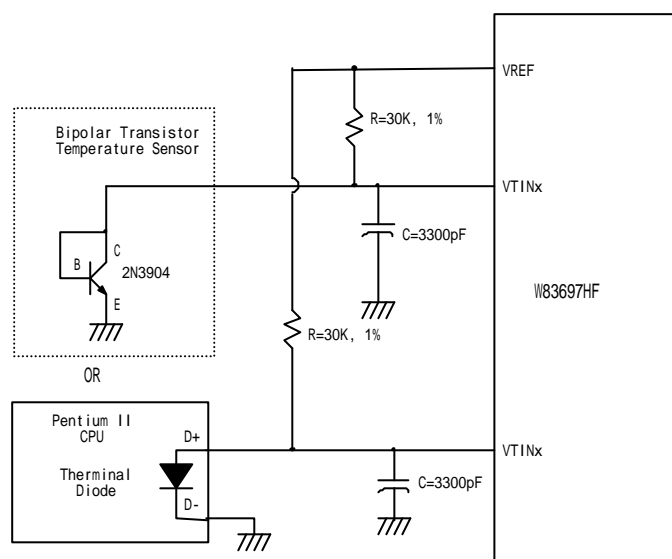

Figure 9.3
The W83697HF can alternate the thermistor to Pentium IITM (Deschutes) thermal diode interface or transistor 2N3904 and the circuit connection is shown as Figure 9.3. The pin of Pentium IITM D- is connected to power supply ground (GND) and the pin D+ is connected to pin VTINx in the W83697HF. The resistor R=30K ohms should be connected to VREF to supply the diode bias current and the bypass capacitor C=3300pF should be added to filter the high frequency noise. The transistor 2N3904 should be connected to a form with a diode, that is, the Base (B) and Collector (C) in the 2N3904 should be tied together to act as a thermal diode.